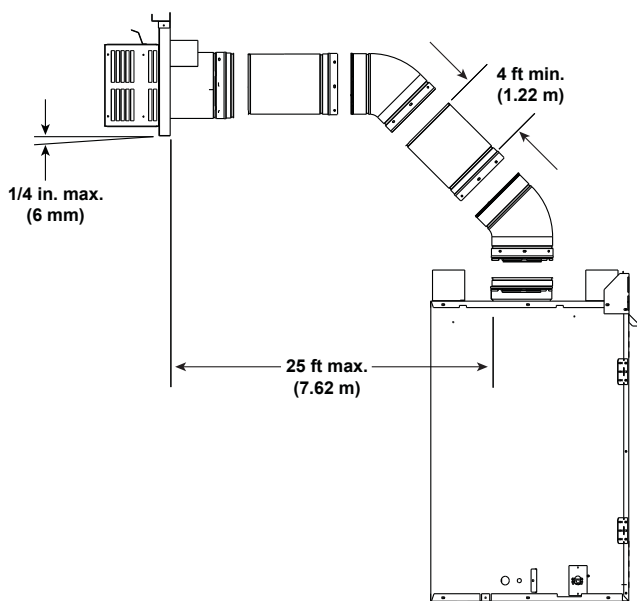

Figure 7.3 Minimum Installation Requirements for Two 45° Elbows-Top Vent-Horizontal Termination
- Elbows may be placed back to back anywhere in the system as long as the first 90° elbow is a starter elbow except as shown in Figure 7.3.
- Horizontal termination cap should have a 1/4 inch downward slant to allow any moisture in cap to be released. See Figure 7.3.